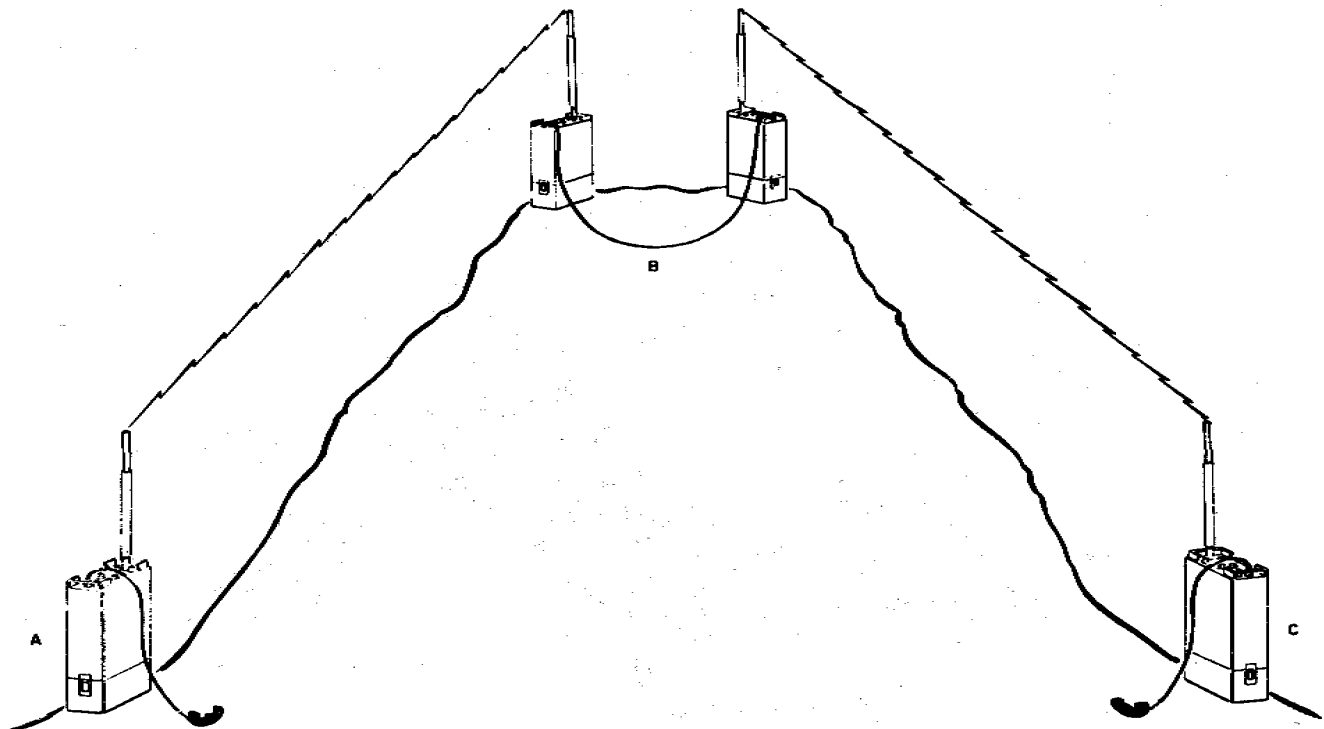

Figure 2-8. Principle of Automatic Relay Operation
(1) DESCRIPTION OF AUTOMATIC RELAY INSTALLATION. - Automatic relay operation makes possible several tactical advantages. By using a station that has two RT-695A/PRC-41 equipments con-nected for automatic relay operation with any uhf transmitter and receiver or other RT-695A/PRC-41 equipment, the line-of-sight distance, which ordinarily limits the range of uhf equipment, can be considerably increased. A diagram illustrating the use of automatic relaying operation is shown in figure 2-8. In this illustration, any signal transmitted by C can be received at A after being automatically relayed at B. Conversely, any signal transmitted by A can be received at C after being automatically relayed at B. Several such relay links may be possible, but in each case, retransmission must always be on a frequency other than that received.